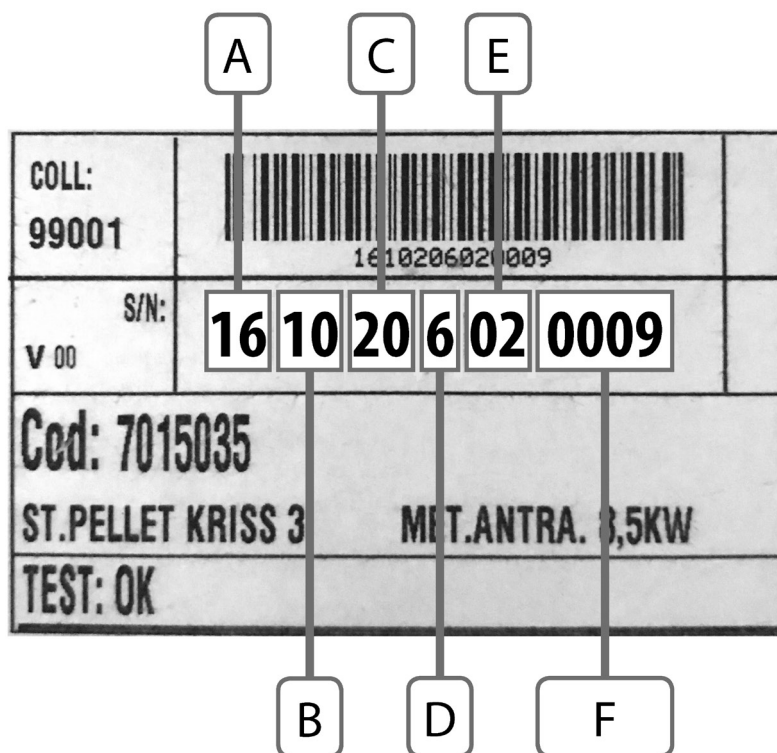

Fig. 63 - Label with serial number
- If worn, remove the bearing cod. 4D180177010 (see **Fig. 63**) and replace it.